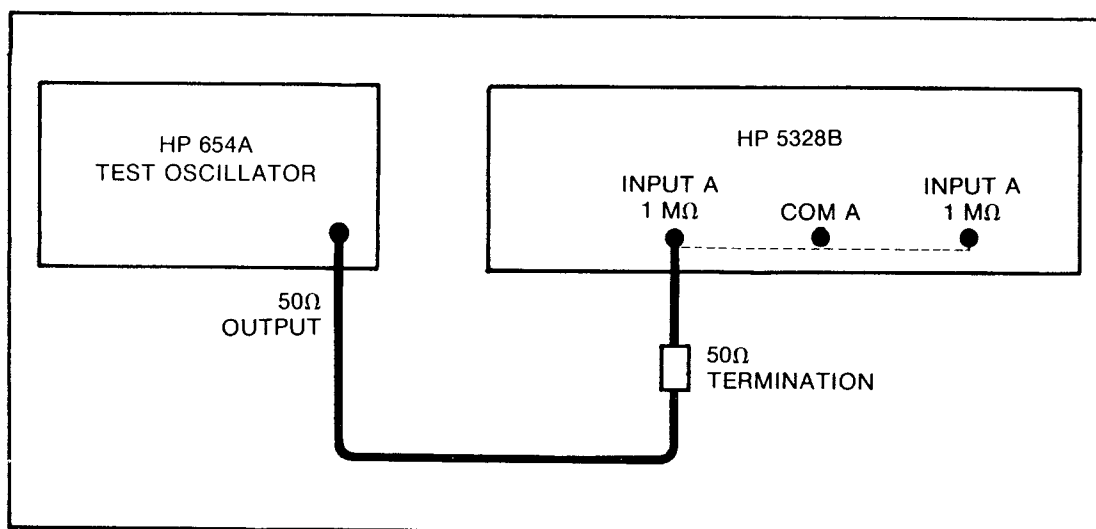

Figure 4-9. Channel B Frequency Response and Sensitivity Test Setup, 10 Hz to 10 MHz
1) Set up equipment for this test as shown in Figure 4-9.